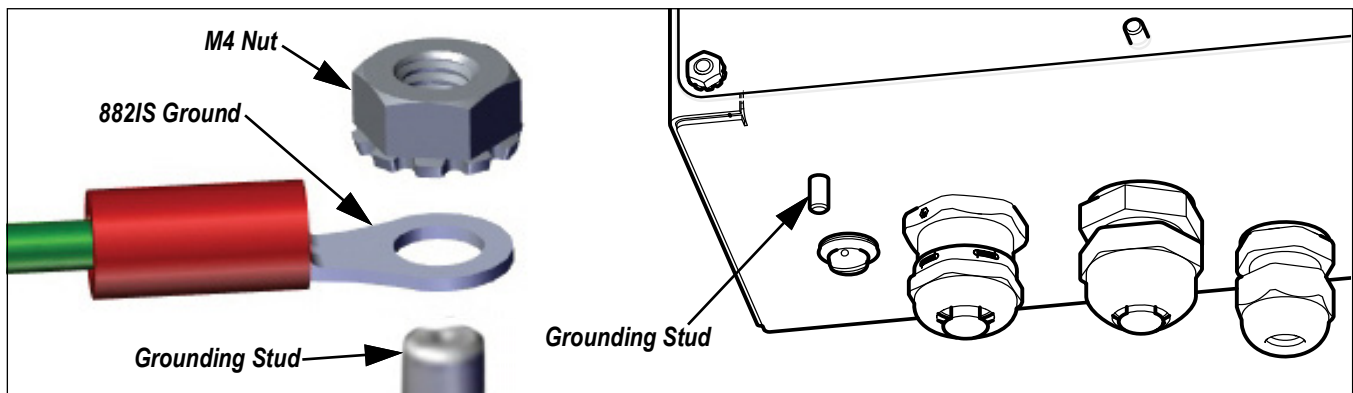

Figure 2-10. 882IS Grounding Stackup
1. Terminate one end to the indicator using the grounding stackup on the external grounding stud (see Figure 2-10).